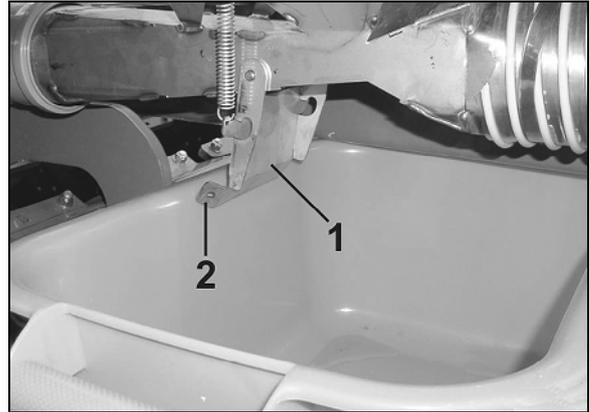

Fig. 97
8. Open the injector sluice flap (Fig. 97/1).
Risk of contusions on opening and closing the injector sluice flap (Fig. 97/1).
Hold the injector sluice flap only by the lug (Fig. 97/2), otherwise there is a danger of injury if the spring-loaded injector sluice flap (Fig. 97/1) snaps shut.
Never insert your hand between the injector sluice flap (Fig. 97/1) and the injector sluice.
10. Close the injector sluice flap (Fig. 97/1) with special care (risk of crushing).
12. Open the injector sluice flap (Fig. 97/1).